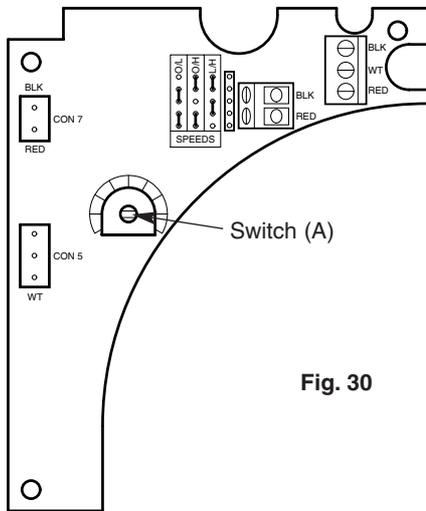

Fig. 30
17. Both modes have a timer setting which determines the length of time the unit runs for after the last movement detection. This time can be adjusted using switch (A) between 2 - 27 minutes (Fig. 30).